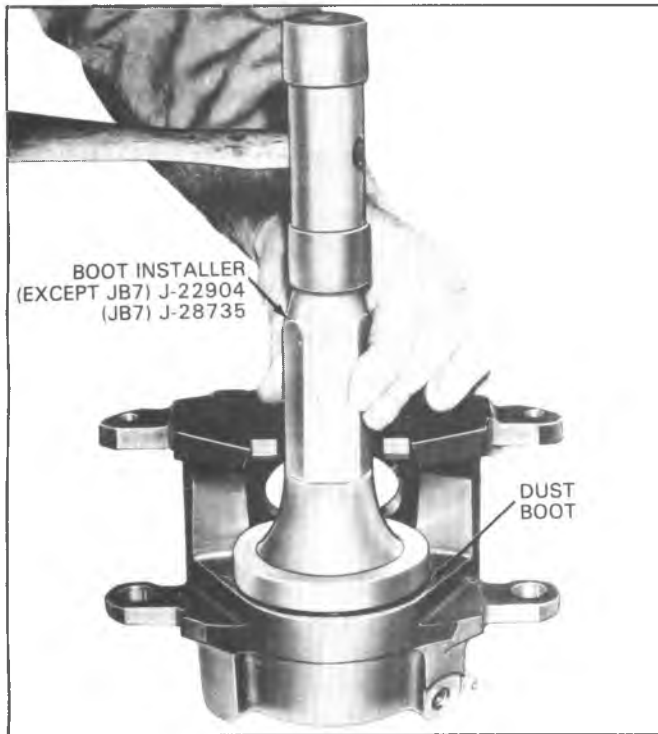

Fig. 5-38-Seating Boot
1. Lubricate the bore in the caliper and the new piston seal with clean brake fluid. Position the seal in the caliper bore groove. Lubricate the piston with clean brake fluid and assemble a new boot into the groove in the piston so that the fold faces the open end of the piston. Insert the piston into the caliper bore, using care not to unseat the seal and force down to the bottom in the bore. This will require a force of 50 to 100 pounds (220 to 440 N). Position the outside diameter of the boot in the caliper counterbore and seat with Tool J-22904 (fig. 5-38).